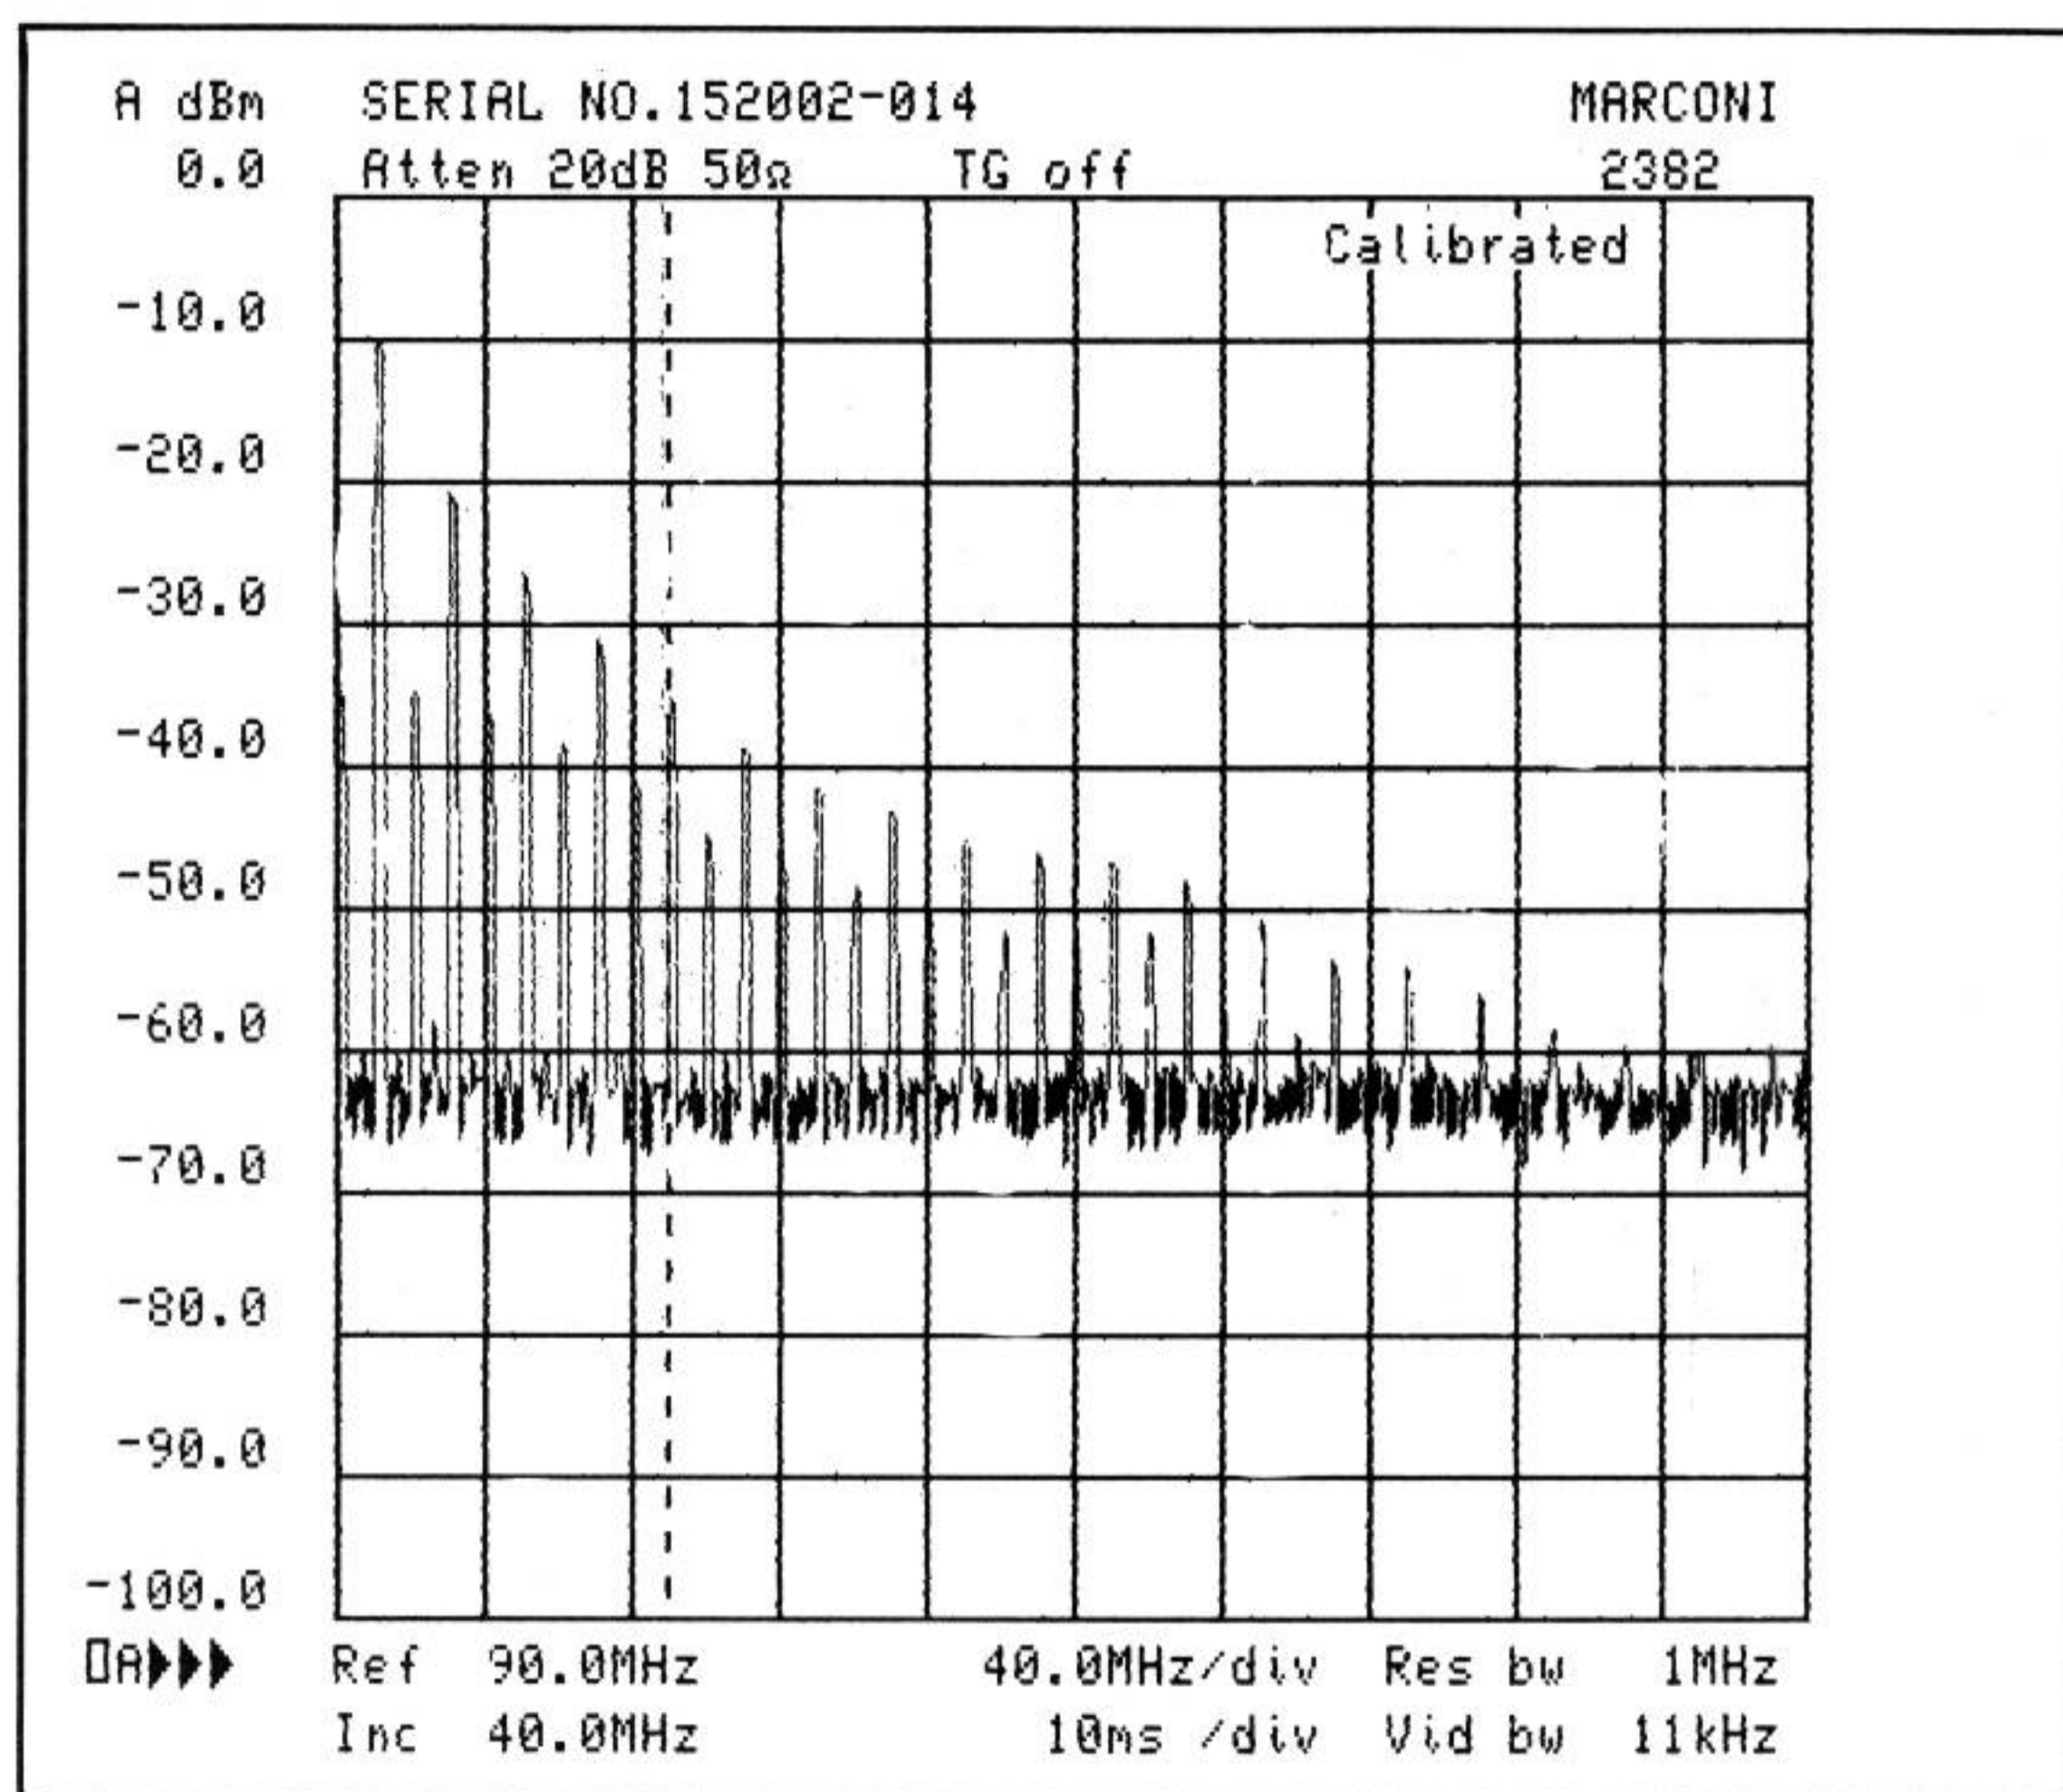

Fig. 4 Frequency spectrum for 10 MHz cal. sig. (FULL SPAN)
23. Position the dashed vertical line on to the ninth harmonic using the REF FREQ rotary control [18]. The reference frequency annotation indicates that the value of the frequency at this point is approx. 90 MHz (refer to Fig. 4).